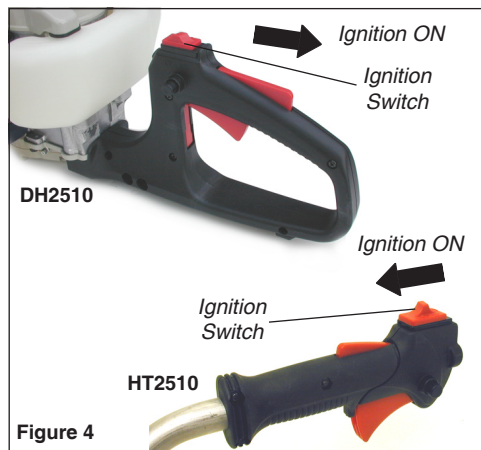

Figure 4
1. Move the ignition stop switch to the rear (towards the grip) to the “I” or ON position. See Figure 4.